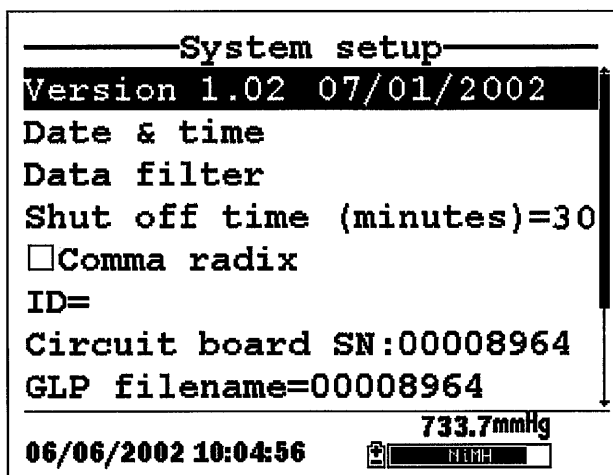

Figure 10.2 System Setup Screen
2. Use the arrow keys to highlight the **Date & time** selection on the system setup screen. See Figure 10.2 System Setup Screen.
2. Use the arrow keys to highlight the **Shutoff time** selection on the system setup screen. See Figure 10.2 System Setup Screen.
2. Use the arrow keys to highlight the **Comma radix** selection on the system setup screen. See Figure 10.2 System Setup Screen.
2. Use the arrow keys to highlight the **Barometer units** selection on the system setup screen. See Figure 10.2 System Setup Screen.